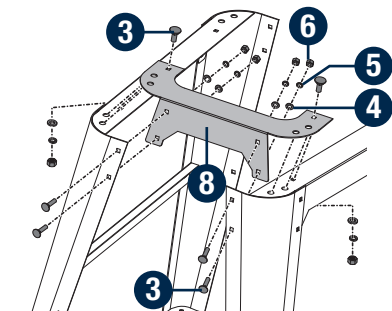

Fig. 4d
- Attach ends of one short upper brace **8** to two frame assemblies using carriage screws M5 x 16 **3**, flat washers **5** **4**, spring washers **5** **5** and hex nuts M5 **6**. (Fig. 4d)